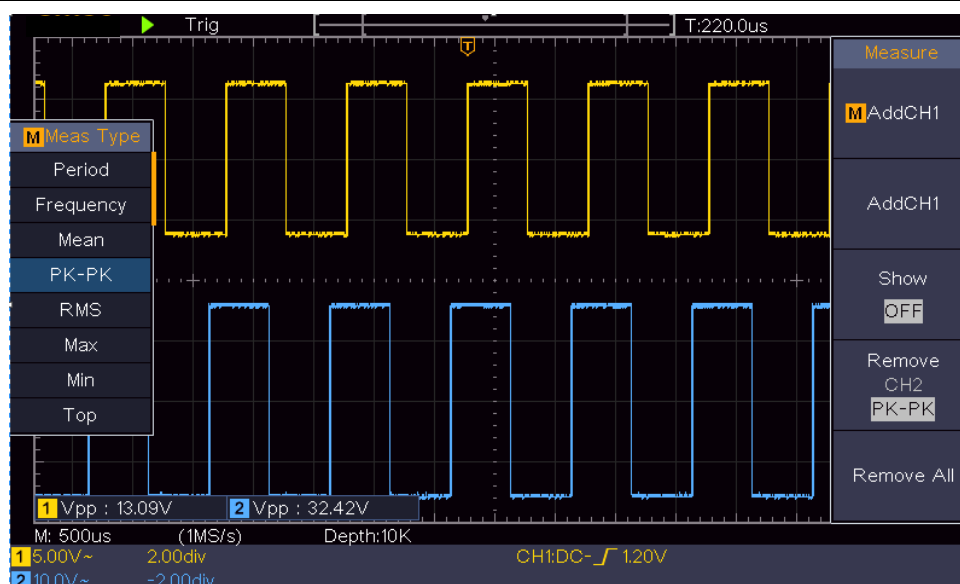

Figure 6-2 Waveform of Gain Measurement
- (1) Push the **Autoset** button and the oscilloscope will automatically adjust the waveforms of the two channels into the proper display state.
- (2) Push the **Measure** button to show the right menu.
- (3) Select **AddCH1** in the right menu.
- (4) In the left Type menu, turn the **M** rotary control to select **PK-PK**.
- (5) In the right menu, select **AddCH1**. The peak-to-peak type of CH1 is added.
- (6) In the right menu, select **AddCH2**. The peak-to-peak type of CH2 is added.
- (7) Read the peak-to-peak voltages of Channel 1 and Channel 2 from the bottom left of the screen (see *Figure 6-2*).
- (8) Calculate the amplifier gain with the following formulas.